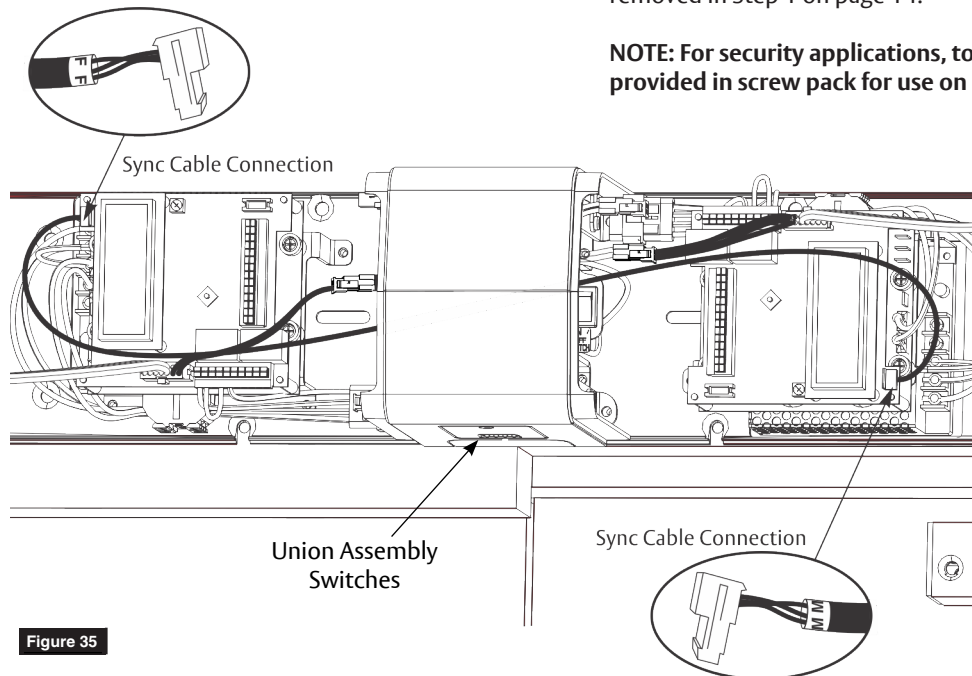

Figure 35
2. Run Sync Cable between operators. (Figure 35)
5. Place both selector mode switches of union assembly in 'ON' position for activation by push plate, RF button, or other activation devices. Place switches in 'H/O' for continuous hold open. (Figure 35)